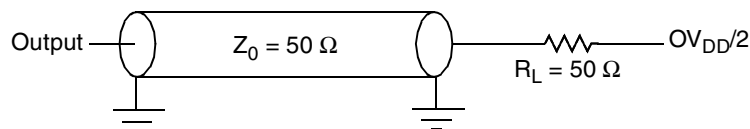

Figure 14. Local Bus C Test Load
Figure 14 provides the AC test load for the local bus.
- All outputs are measured from the midpoint voltage of the falling/rising edge of t_{TCLK} to the midpoint of the signal in question. The output timings are measured at the pins. All output timings assume a purely resistive 50-Ω load (see Figure 14). Time-of-flight delays must be added for trace lengths, vias, and connectors in the system.
- The symbols used for timing specifications follow the pattern of $t_{(first\ two\ letters\ of\ functional\ block)(signal)(state)(reference)(state)}$ for inputs and $t_{(first\ two\ letters\ of\ functional\ block)(reference)(state)(signal)(state)}$ for outputs. For example, $t_{JTDV KH}$ symbolizes JTAG device timing (JT) with respect to the time data input signals (D) reaching the valid state (V) relative to the t_{JTG} clock reference (K) going to the high (H) state or setup time. Also, $t_{JTDX KH}$ symbolizes JTAG timing (JT) with respect to the time data input signals (D) went invalid (X) relative to the t_{JTG} clock reference (K) going to the high (H) state. Note that, in general, the clock reference symbol representation is based on three letters representing the clock of a particular functional. For rise and fall times, the latter convention is used with the appropriate letter: R (rise) or F (fall).